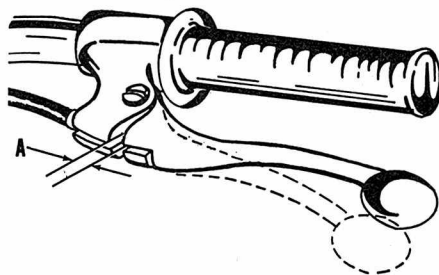
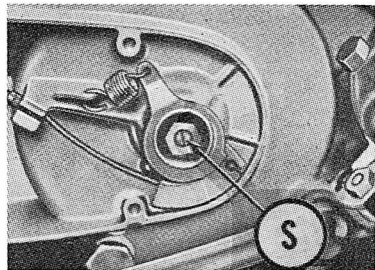

Fig. Y7-9—The clutch hand lever should have  $\frac{1}{16}$ - $\frac{1}{8}$ -inch free play at (A).
Fig. Y7-10—The clutch adjusting screw (S) is located under the cover on left side of engine.
**CLUTCH CONTROLS.** The clutch hand lever should have  $\frac{1}{16}$ - $\frac{1}{8}$  inch free play at (A—Fig. Y7-9). To adjust, remove the cover from left side of engine and loosen lock nut. Turn the adjusting screw (S—Fig. Y7-10) in until slight resistance is felt, then
back screw out  $\frac{1}{4}$  turn and tighten lock nut. Turn the cable guide at hand lever end of cable until the hand lever free play (A—Fig. Y7-9) is correct.